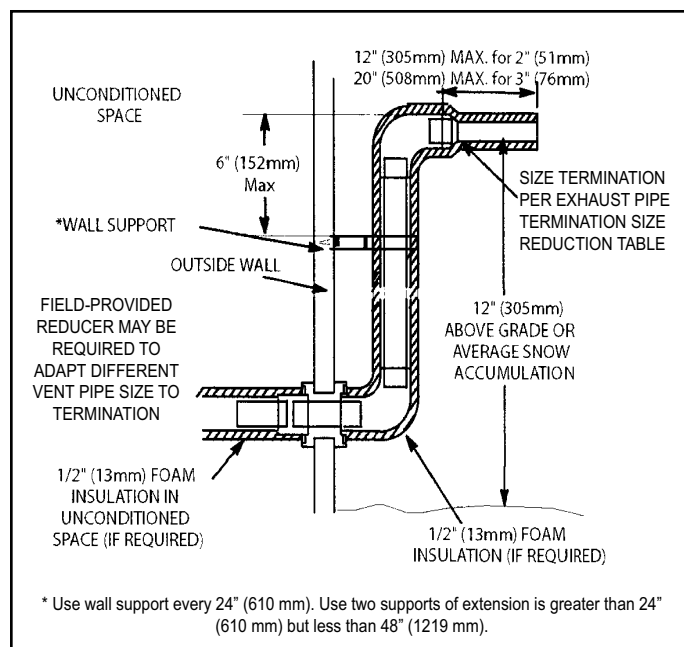

Figure 46. Non-Direct Vent Field Supplied Wall Termination Extended
3. If exhaust piping must be run up a sidewall to position above snow accumulation or other obstructions, piping must be supported every 24" (610 mm) as shown in Figure 46. When exhaust piping must be run up an outside wall, any reduction in exhaust pipe size must be done after the final elbow.